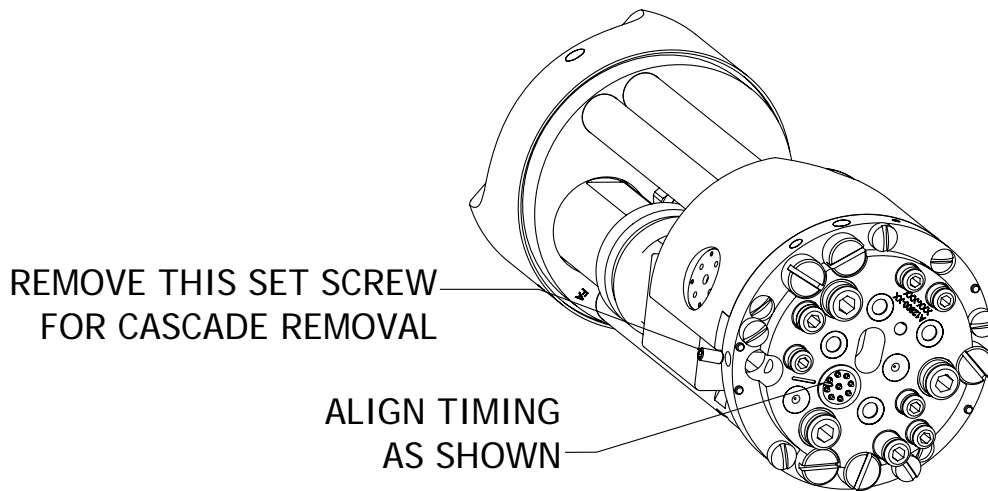

Figure 17: Cascade Wire Plug Assembly
12. Remove the five (5) air bolts [9] from the bottom of the mounting plate [12]. Inspect the five (5) o-rings [3] located within the air bolts [9] and replace if necessary.
14. Remove the cascade plug [16] from the mounting plate [12] by unscrewing the set screw located on the side of the mounting plate [12] in-line with the timer markings. (For set screw location see Figure 17).
19. Remove the mounting plate [12] from the valve manifold block [15] by unscrewing the three (3) screws [8] located on the bottom of the mounting plate [12].
20. Reassemble in reverse order making sure to align the cascade wire plug timing mark with the timing mark on the mounting plate [12] as shown in Figure 17. Remember to tighten the set screw called out in Figure 17.